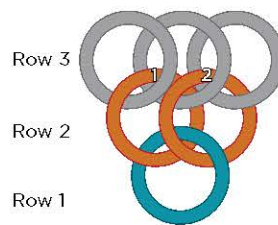

FIG. 3
4. Thread and close 1 open jump ring through jump ring 1 of row 2 (stay on the outside edge). Then thread and close 1 open jump ring through jump ring 2 of row 2 (stay on the outside edge) (FIG. 3).